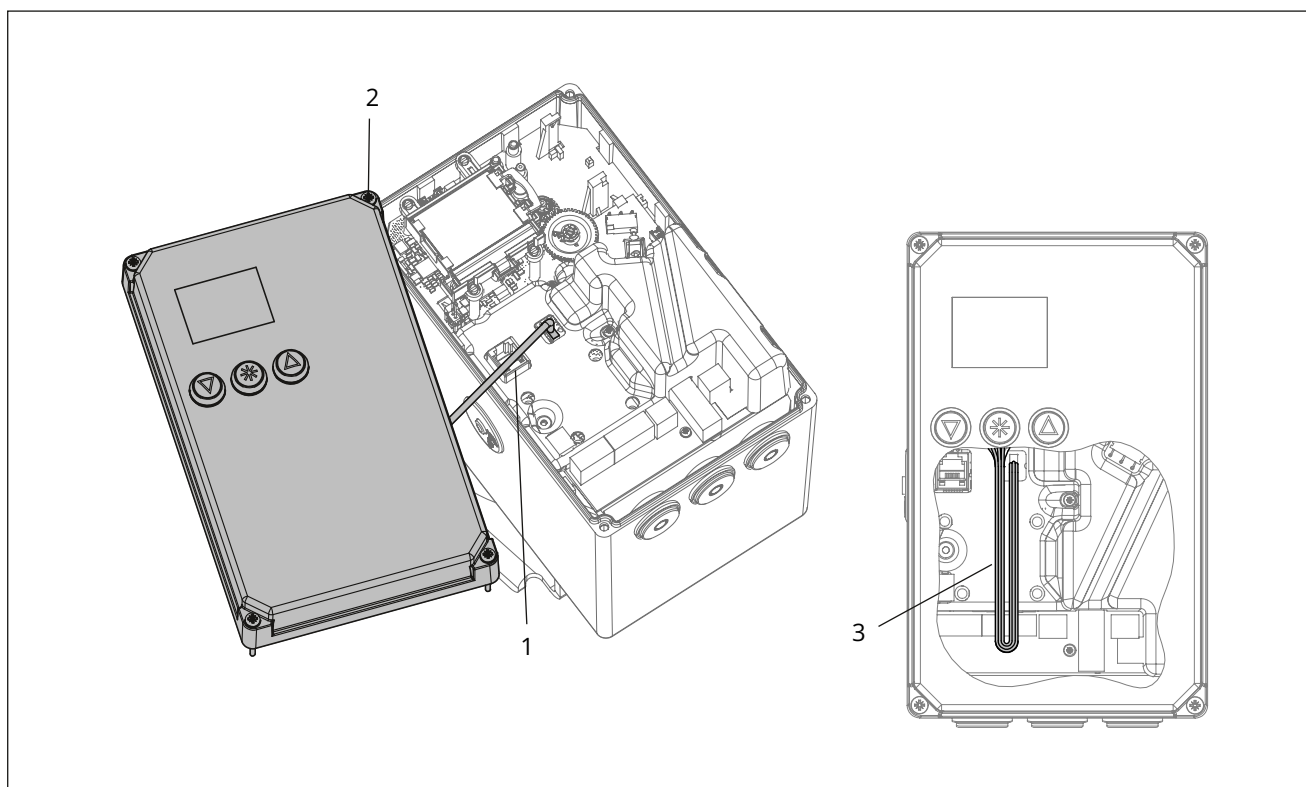

Fig. 38: Connection for special version with three-key operation
⇒ See Fig. 38.
2. Move the housing cover to the position as shown in Fig. 38.
3. Place on cover. Briefly turn the screw (2) counterclockwise to center it. Tighten it slightly.
5. Loosen the screw (2), while holding the housing cover to ensure the connecting cables (1) of the housing cover do not get damaged by tensile load.
6. Place the housing cover on the housing and route the connecting lines in the housing as shown in Fig. 38.